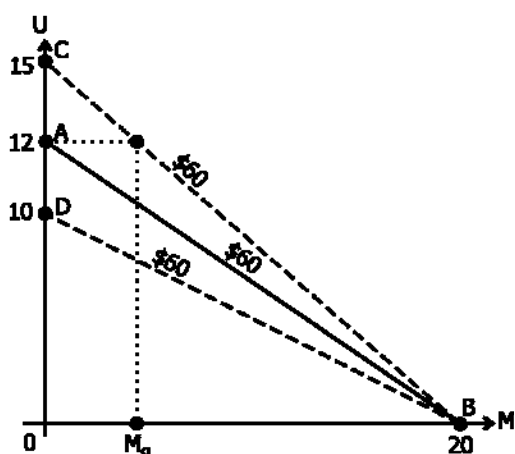

Figure 3.6 Changes In Input prices
- ii.) When the price of one of the inputs changes (other things being unchanged), the end-point (intercept) of the isocost line will shift on the axis of the input whose price has changed. For example, when P_U reduces from \$5 to \$4, the end-point of the isocost line shifts from 12 to 15 on the axis of input U making CB the new isocost line. This is because such a reduction in price makes input U cheaper and so more of it can be purchased. Even if the firm still wants to buy only 12 units U, it will also be able to buy M_0 units of M as shown in Figure 3.6. Before the price
From the illustration in Figure 3.6, it can be noted that changes in input prices change the slope of the isocost line.